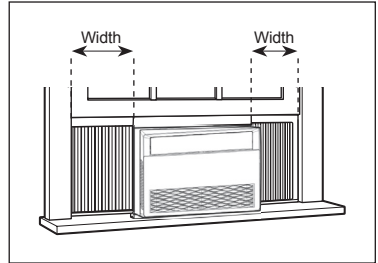

FIGURE 17
- 10** Once the installation is complete, measure the width between the air conditioner's outer casing and the window frame, as seen in *Figure 17*.